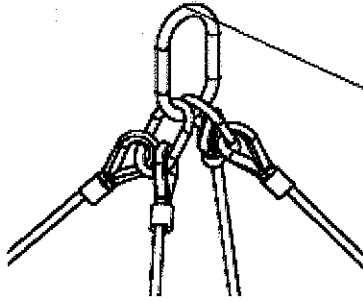

Figure 1
- 5.2 Attach the crane hook to the top ring of the Upper Sling, SEG38117113-701, as seen in Figure 1. Alternate connection of the crane to the secondary rings is acceptable if performed by CERN lifting personnel.
- 5.9 Attach the crane hook to the top ring of the Upper Sling, SEG38117113-701, as seen in Figure 1. Alternate connection of the crane to the secondary rings is acceptable if performed by CERN lifting personnel.